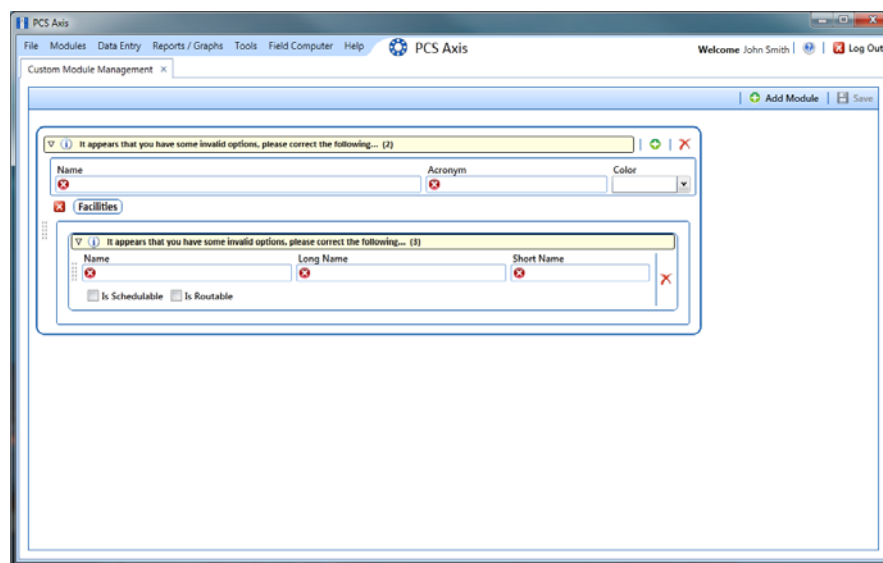

Figure 2-47. Custom Module Management
- 2 Open CMM and add a user defined module. Click **Modules > Custom Module Management >  Add Module** (Figure 2-47).